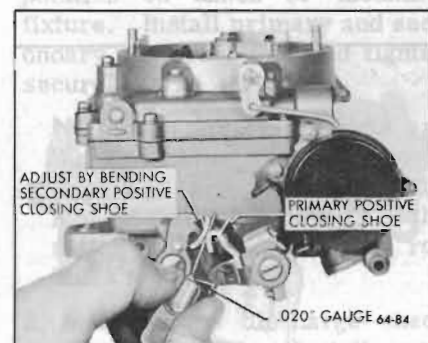

Figure 64-65—Closing Shoe Adjustment
6. Adjust Closing Shoe. Hold choke open and rotate primary throttle lever through full range. Check clearance between positive closing shoes on primary and secondary throttle levers at closest position using .020" gauge. Bend secondary closing shoe as required to obtain this clearance using pliers. See Figure 64-65.